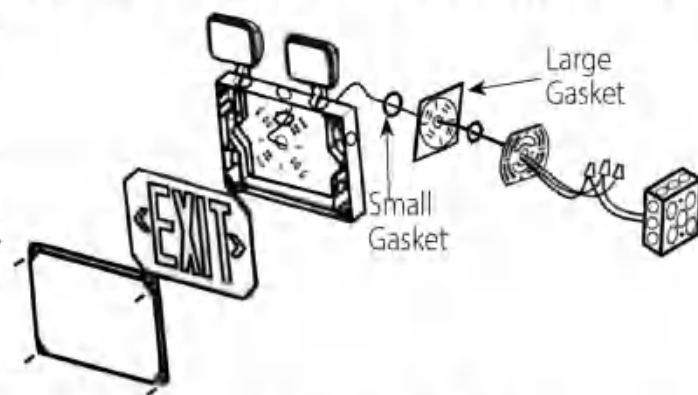

Figure 3 - Back Mount
NOTE: Figure 3 shown as single face install, for double face: install additional EXIT faceplate.
- Feed the power supply through the knockout. Direct the input wires along the walls of the fixture to protect the wires and prevent shadowing. Run the wires through the mounting bracket as seen in Figure 3.